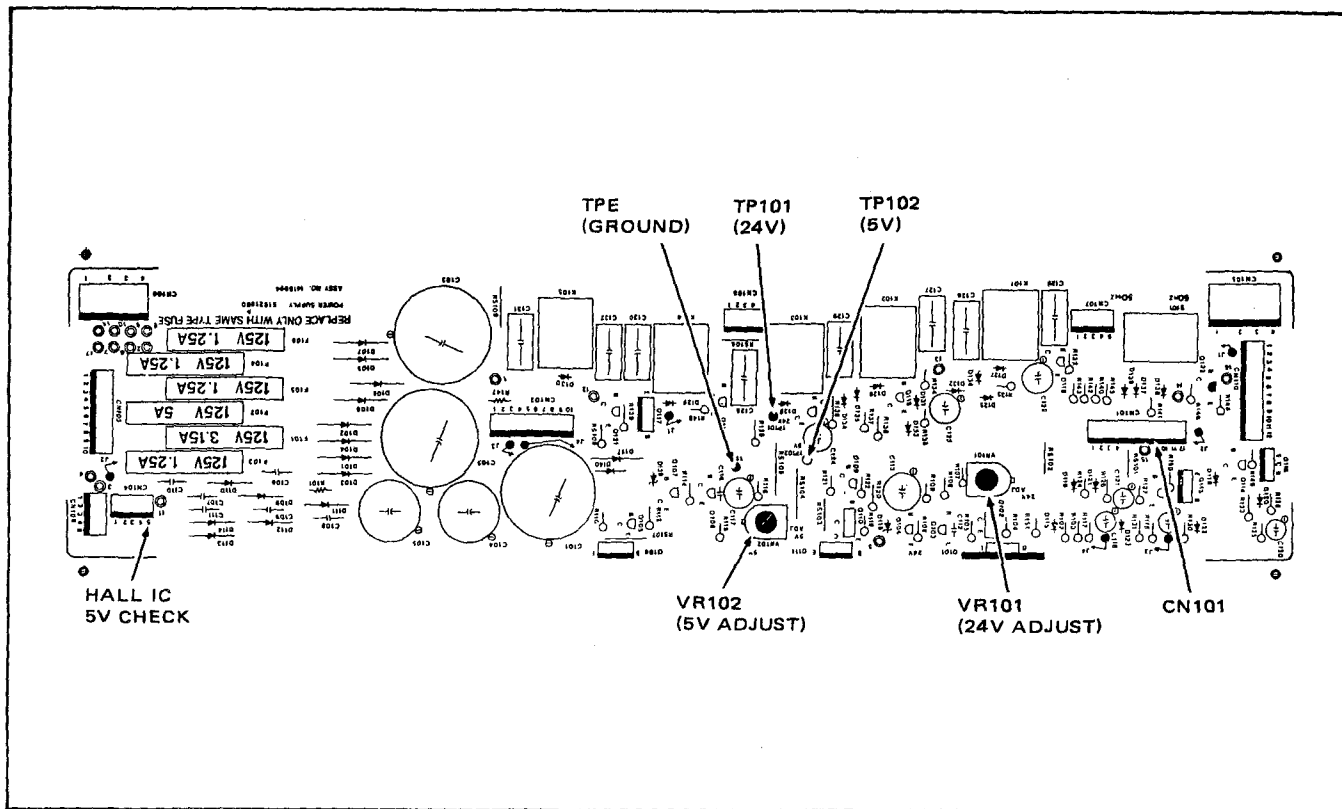
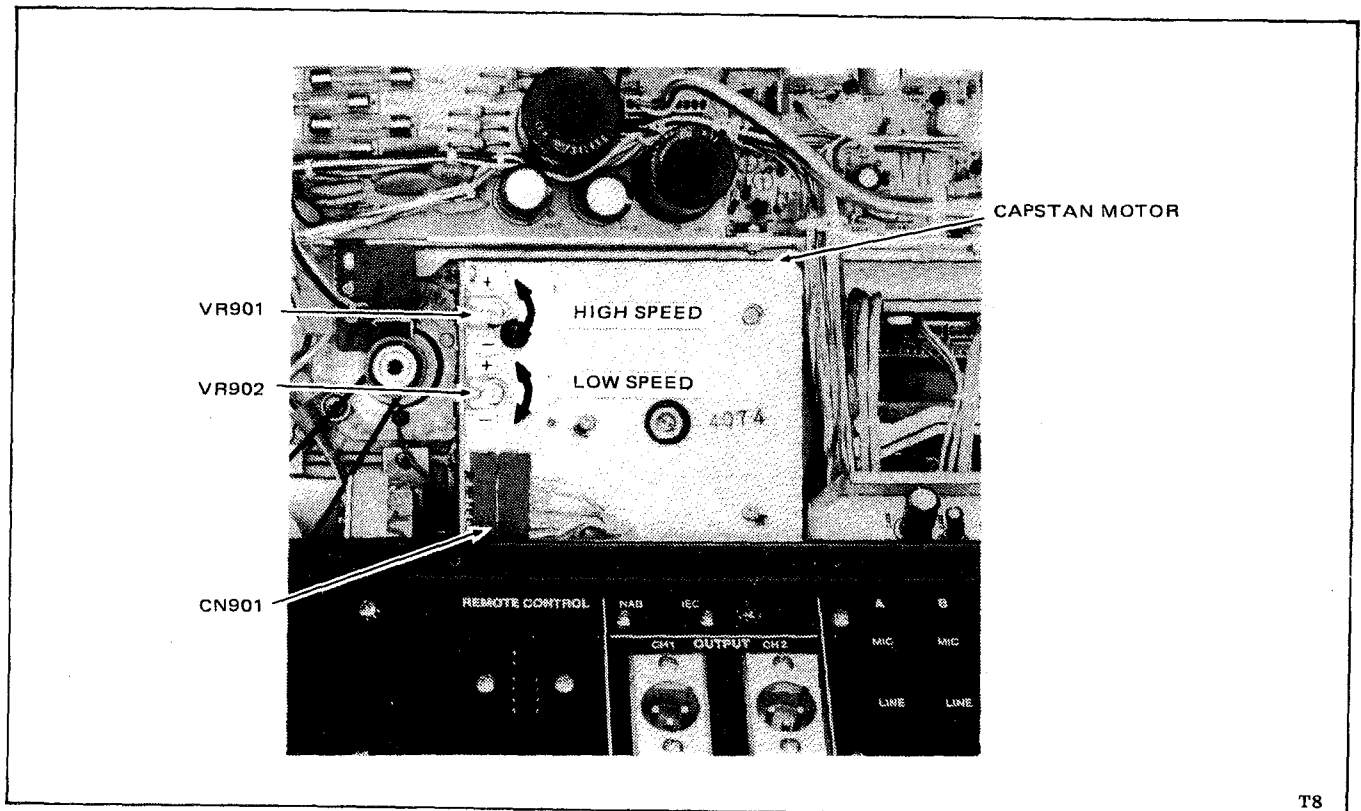

Figure 5-18. DC Voltage Adjustment, Power Supply PWA
Figure 5-19. Tape Speed Adjustments
- Through the rear of the deck, unplug Control Board Connector CN101 (Figure 5-18) and Capstan Motor Connector CN901 (Figure 5-19).
- Refer to Figure 5-18 and connect vtvm between TP101 (+) and TPE (PWA ground).
- a. Locate the speed adjustment resistors on the capstan motor (see Figure 5-19).